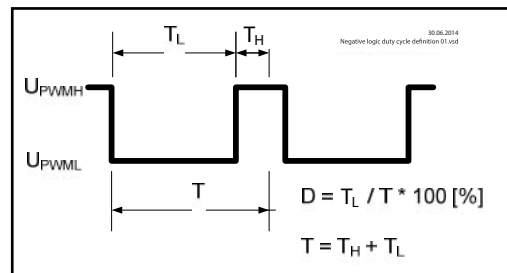

Figure 1
- PWM control is "NEGATIVE logic duty cycle definition" (See Figure 1, below).